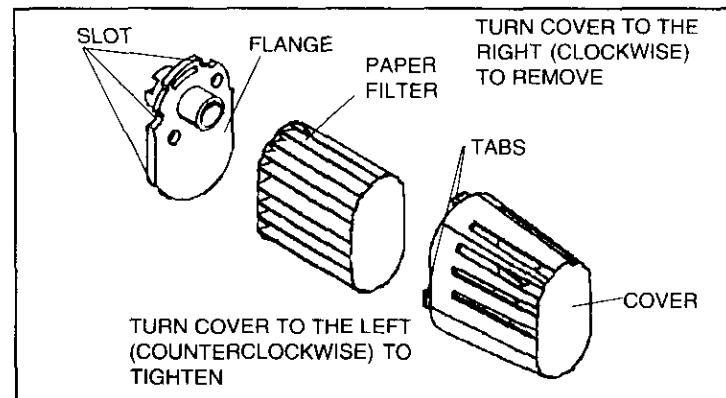

Figure 6
⚠ **DISCONNECT SPARK PLUG WIRE FROM SPARK PLUG AND ATTACH IT TO RETAINING POST (see Figure 6 on Page 3).**
### ③ AIR CLEANER (see Figure 6):